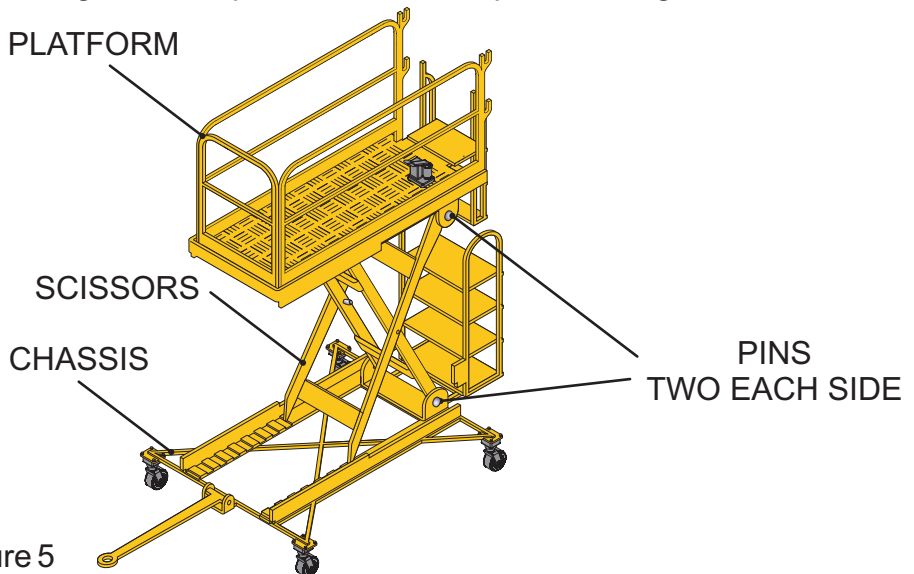

Figure 5
- 5 Final Assembly (see Figure 5 below)